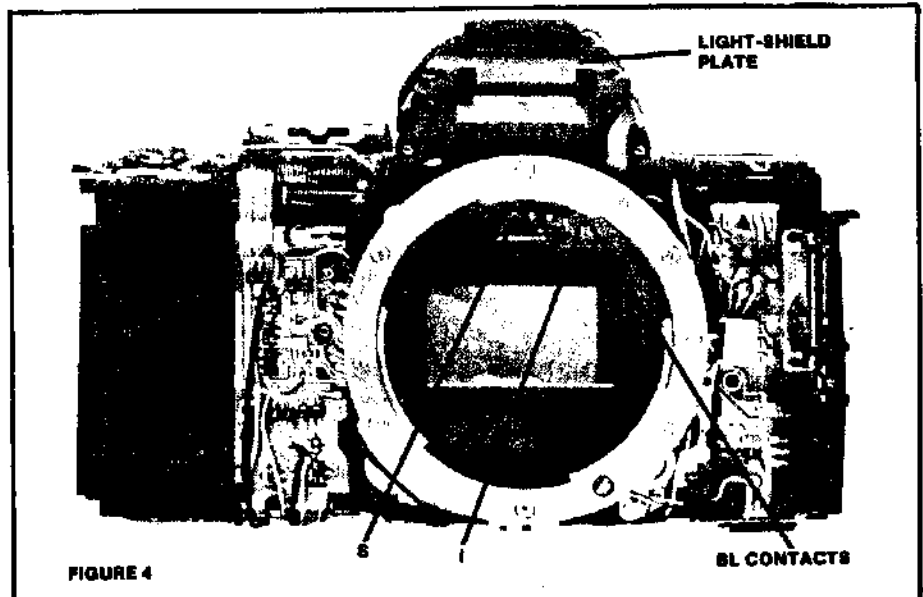

FIGURE 4
- Fig. 4—front view, covers removed